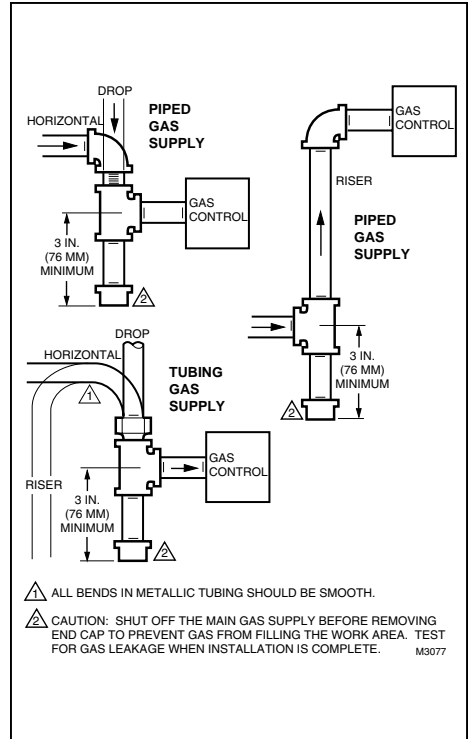

Fig. 1—Install sediment trap.
3. Install sediment trap in gas supply line. Refer to Fig. 1.